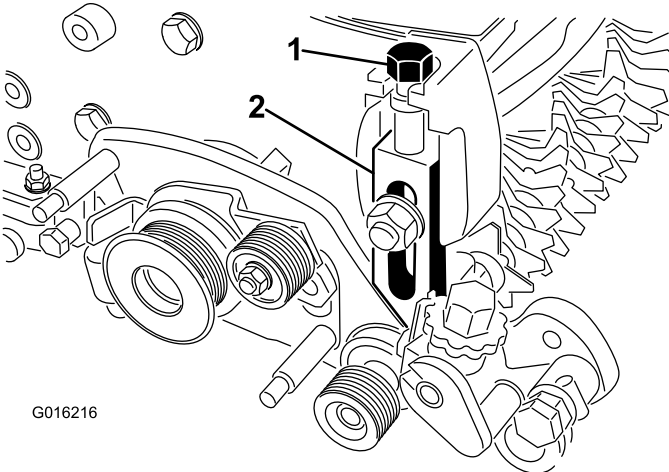

Figure 12
27. Thread the height-of-cut adjusting screw into the top of the right adjuster arm assembly (Figure 12).
Note: Make sure that the rod end of the height-of-cut arm assembly slides into the bushing in the hole in the groomer drive assembly (Figure 12).
31. Thread the height-of-cut adjusting screw into the top of the left adjuster arm assembly (Figure 12).
33. Install the left adjuster arm assembly to the cutting unit side plate using the existing plow bolt, nut, and a new washer (Figure 12).